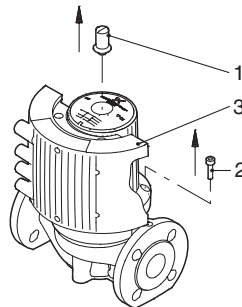

Fig. 1 Removing the control box
1. Remove the inspection screw (1) and the four screws (2) in the stator housing, see fig. 1.